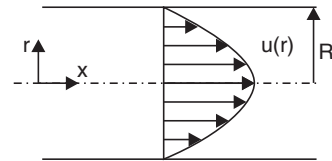

FIGURE 1.9
18. The velocity profile of a fully developed laminar flow in a straight circular pipe, as shown in Fig. 1.9 is given by the expression